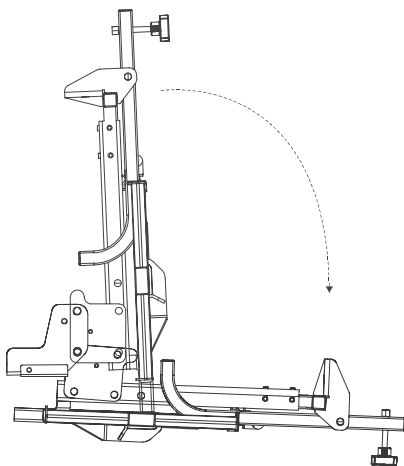

Figure 4-20
2. With the hitch pin removed, carefully lower the AL003 until it cannot be lowered any further. *See Figure 4-20.*